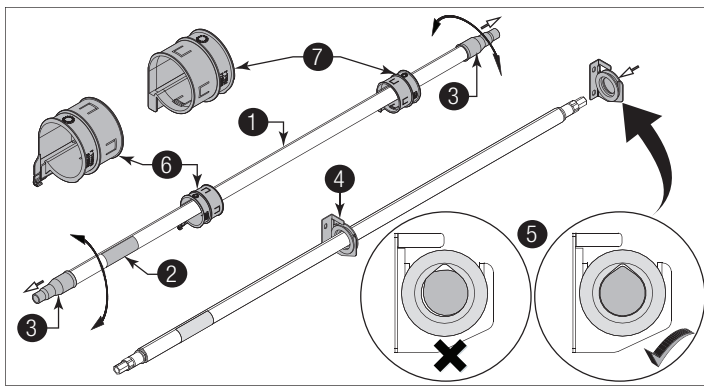

Figure 36
**See Figure 36 for the following steps.**